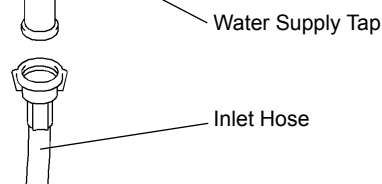

Fig. 5
- 2) Attach the other end of inlet hose to the water tap (Fig. 5), noting washer is correctly positioned before hand tightening as above. It is a wise precaution to have a stop valve within easy reach.